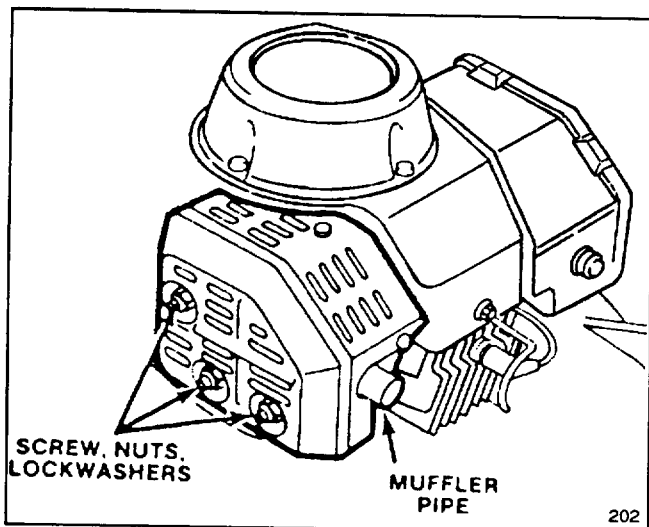

Figure 21
2. Use hard wood scraper and remove carbon from end of muffler pipe (Fig. 21).
3. Remove screw, two nuts, and lockwashers (Fig. 21). Slide muffler off mounting pins.